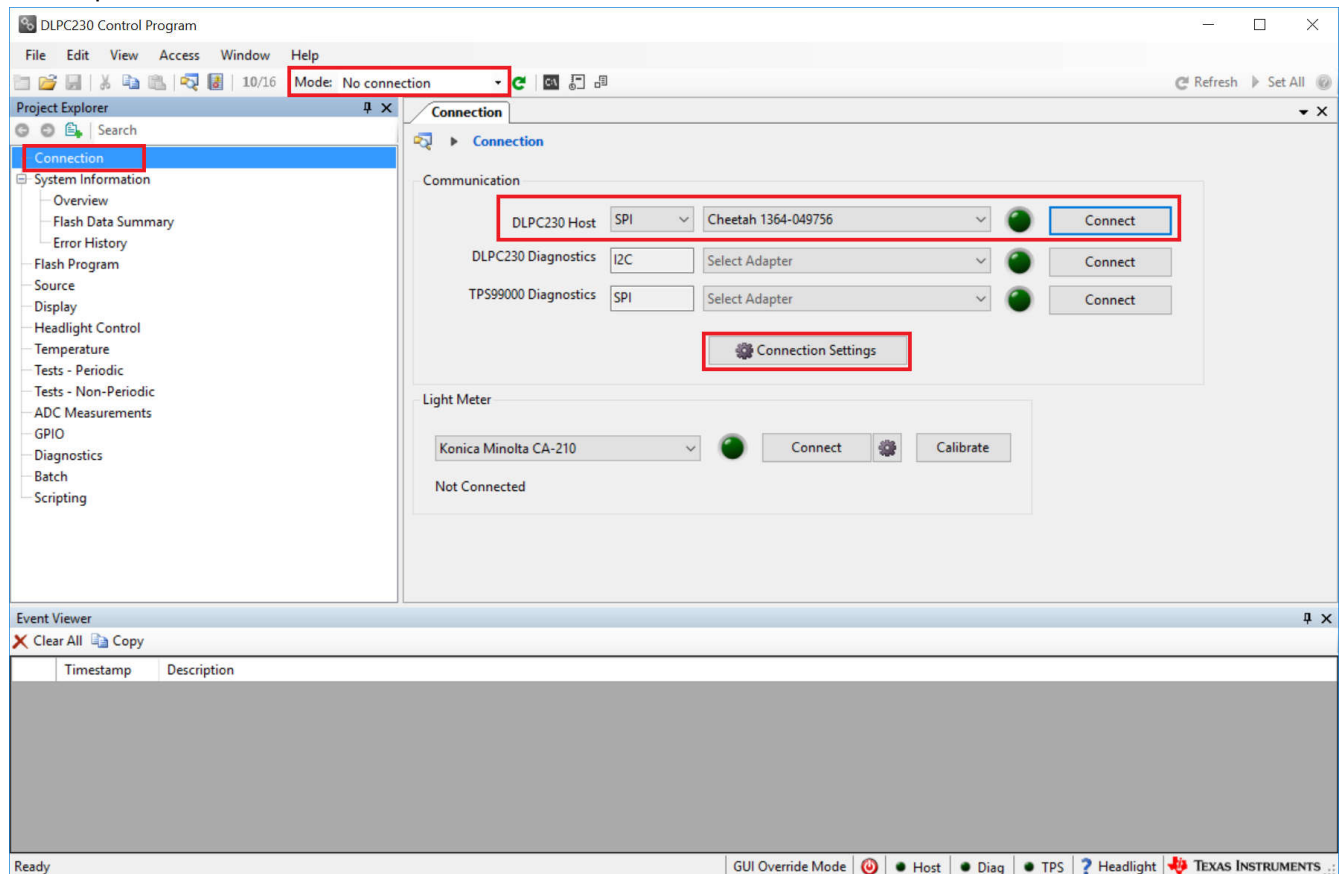

Figure 2-2. Connecting to the DLPC230-Q1 Using the DLPC230-Q1 Automotive Control Program
2. On the connection page set the DLPC230-Q1 Host to SPI and select the Cheetah from the drop down menu (see Figure 2-2). Note, the Cheetah must be connected to computer with USB cable for it to show up in the drop down box.